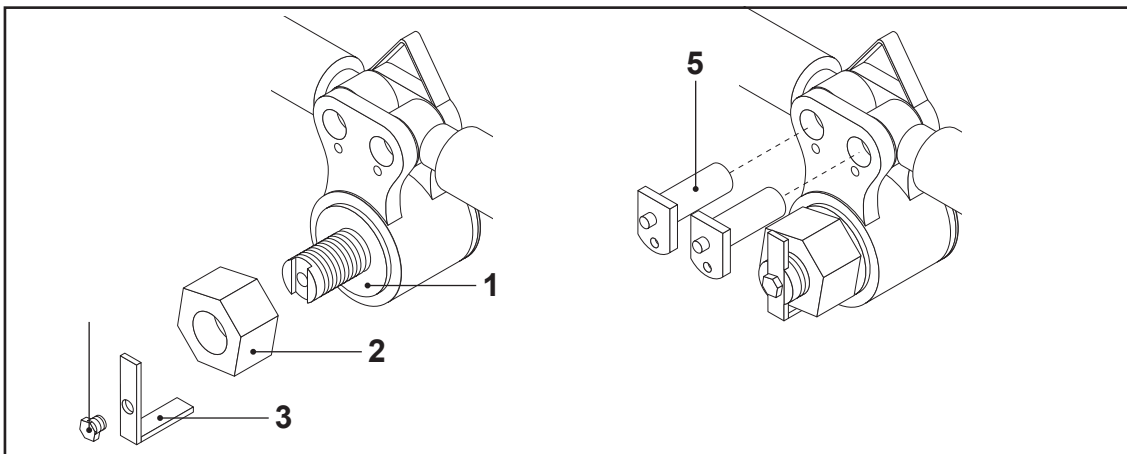

FIG. 78
- Put back the lever locking washer (FIG. 78-REF. 1), the adjustment nut (FIG. 78-REF. 2), the nut locking lever (FIG. 78-REF. 3) and fasten it with the TE screw (FIG. 78-REF. 4).
- Put back the two pins (FIG. 78-REF. 5), align the holes on the tapered connecting rod with the holes on the jack and tighten the screws to fasten them.